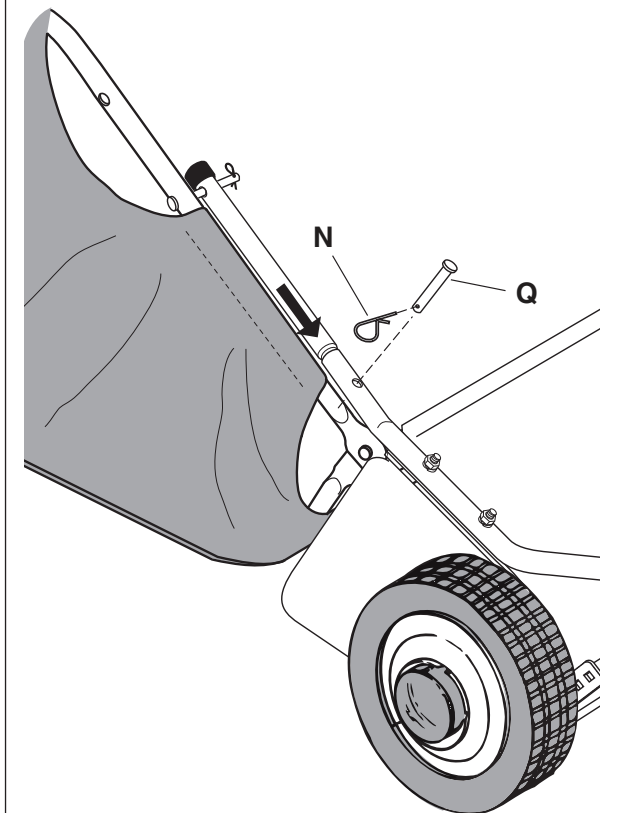

Figure 23
STEP 23: (SEE FIGURE 23)
- Connect the hopper bag assembly to the sweeper assembly using 1/4" x 1-3/4" clevis pins (Q) and 3/32" hair cotter pins (N).